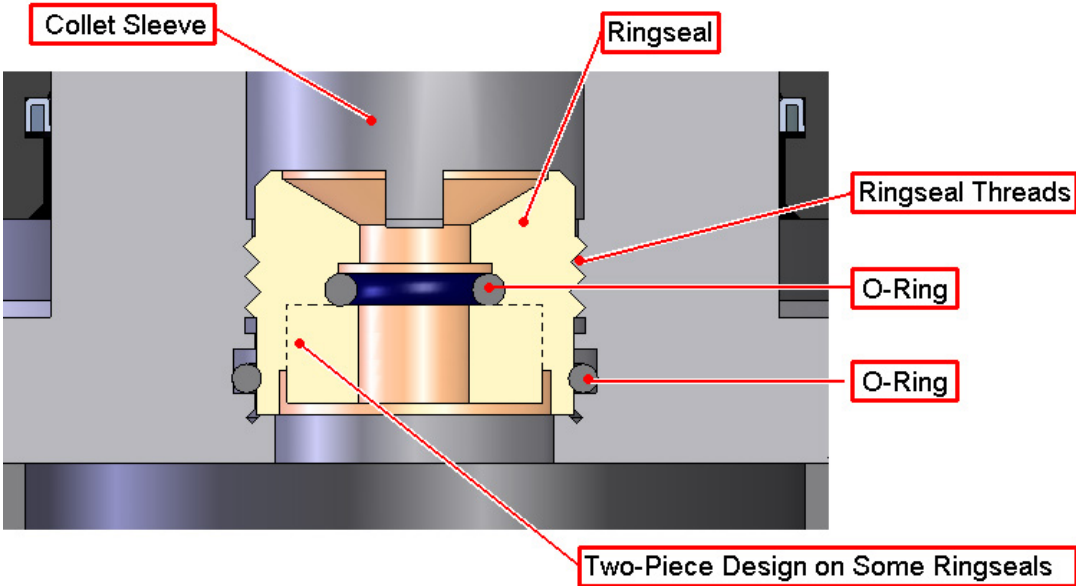

Figure 4-6: Cross-Section View of Ringseal Showing O-Ring
- Step 5: Remove the o-ring on the ringseal itself, and replace it with a properly lubricated new item. The second o-ring is within the collet sleeve (shown in Figure 4-6). A long pick or thin screwdriver will be necessary to remove the o-ring and replace it.